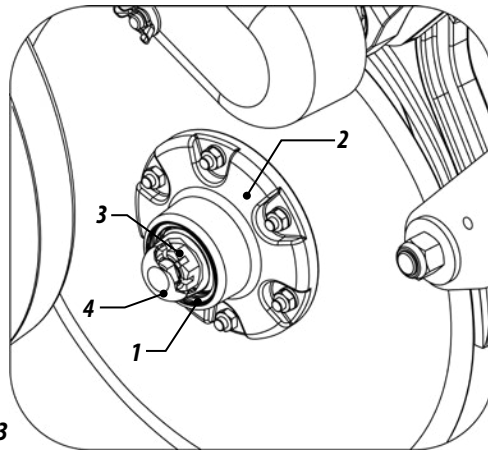

Figure 53
- Remove the seal ring (1) the hub (2).
- Examine the bearing, if any clearances, fit through the castle nut (3).
- Put some new grease in the cap (4).
- Replace the cap on the hub and fix it with the seal ring (1). Figure 53.